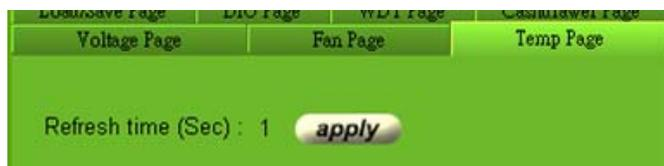

Figure 7-14: Temperature Refresh Time Setting
- Step 2:** Entering a value beside the **Refresh time (Sec)** (Figure 7-14).
- Step 3:** Click apply (Figure 7-14).